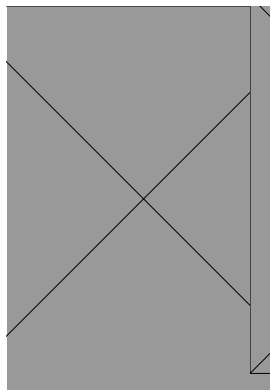

Figure 10
Step 3. From the bottom of the cover lift upwards to remove (Figure 10).